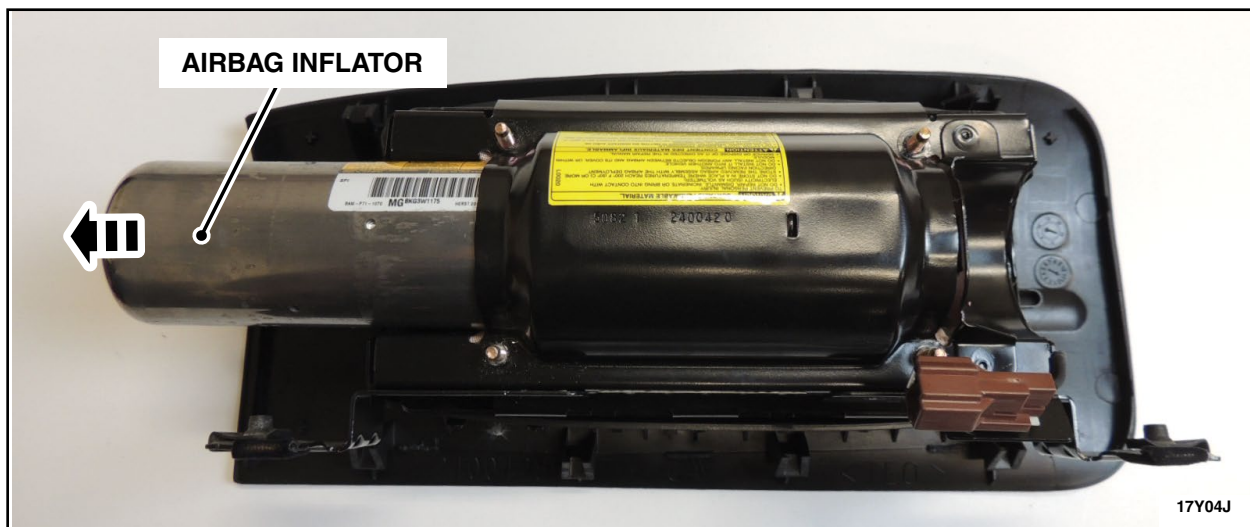

FIGURE 9
7. With an assistant holding the airbag assembly, remove the inflator from the airbag assembly by pushing outward on the inflator. See Figure 9.